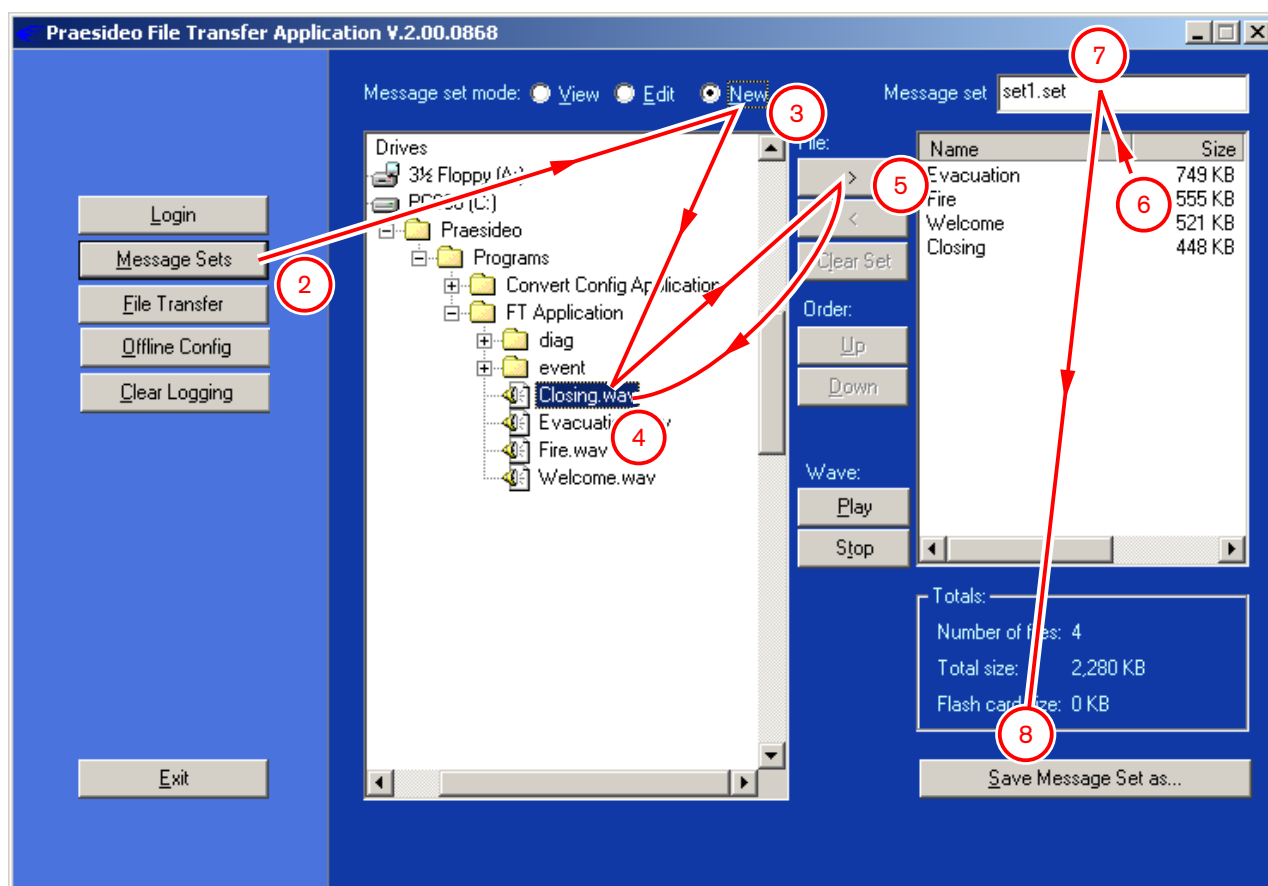

figure 35.9: Creating a message set
- 2 In the *File Transfer* Application, click the *Message Sets* button. A screen similar to the one in figure 35.9 appears.